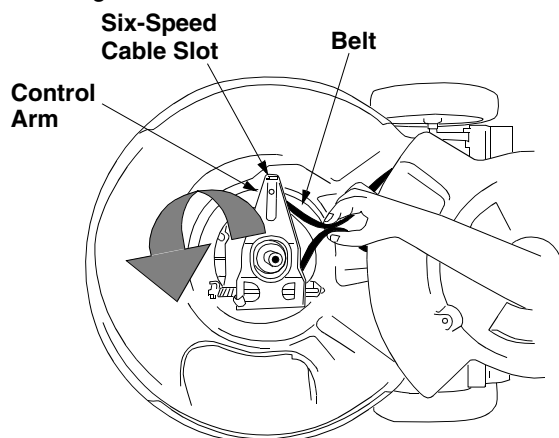

Figure 20
- Squeeze the belt together and push it forward, while pressing the control arm inward towards the deck and remove the six speed cable from the slot. See Figure 20.